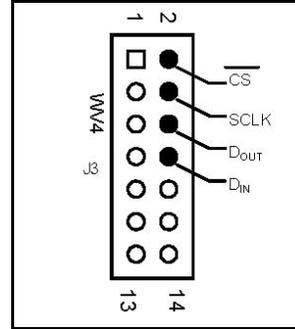

Figure 2: J3 WaveVision4 Serial Interface Header
4. The digital inputs and outputs are available at header J3. Refer to *Figure 2* for connection details. The source used to create signals SCLK, CSB, and DIN must meet the digital input characteristics in the ADC128S102QML datasheet.
If the Evaluation board is used in Stand-alone mode, the onboard oscillator and signal applied to J6 do not drive the SCLK pin. Rather, an external source such as a pattern generator must supply the digital signals (CSB, SCLK, DIN) to drive the ADC128S102WG. These signals must be applied at J3, the Serial Interface Header (See Figure 2).